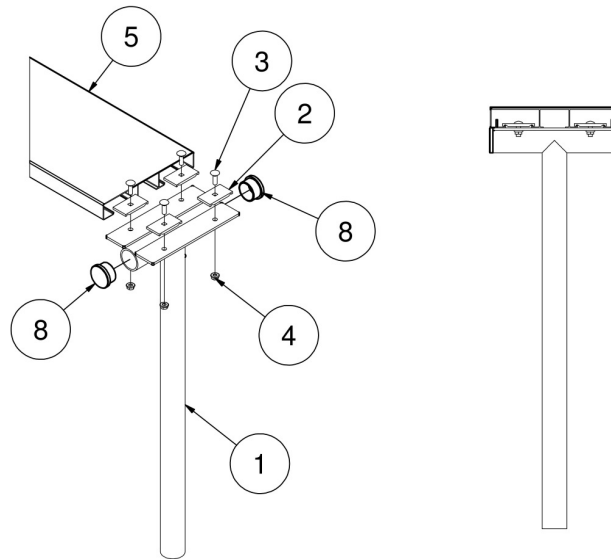
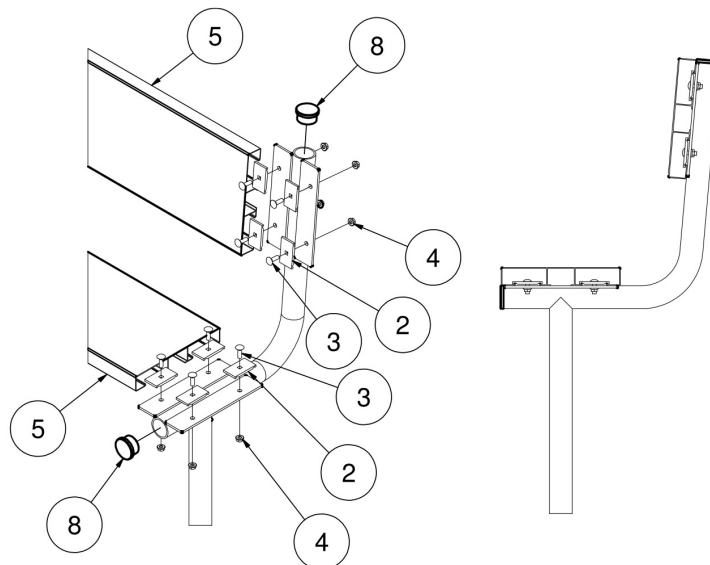

Figure 1
Figure 2
1. The Plastic Caps (Item 8) are pre-installed at the factory, but are shown for reference should they be required for replacement. Refer to Figure 1 for without back models and Figure 2 for with back models.
4. Install the seat back on "with back" models using the same method as mounting the seats. Refer to Figure 2.